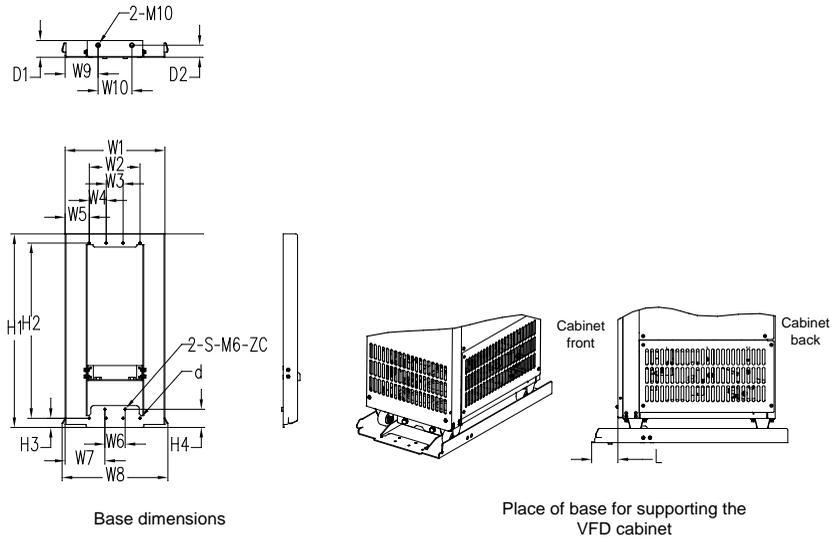

Figure C-17 380V 220–630kW VFD base bracket dimensions and mounting dimensions
**Note:** For details about the base mounting bracket, see Figure C-17 and Table C-8.